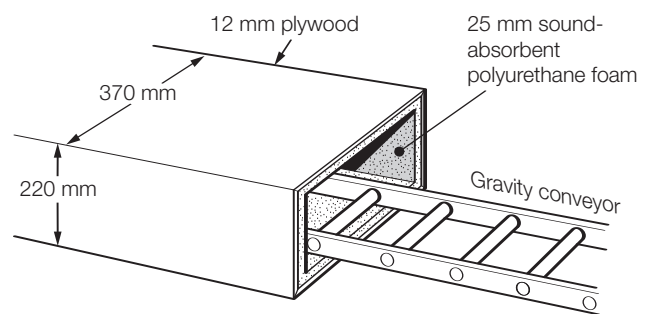

Figure 2 Full tunnel
- When machining longer and wider workpieces, which will vibrate and transmit noise outside the enclosure, use larger and longer enclosures or use sound-absorbing tunnels at the feed apertures. These can still be reasonably effective even if they are open-fronted (see Figures 2 and 3).